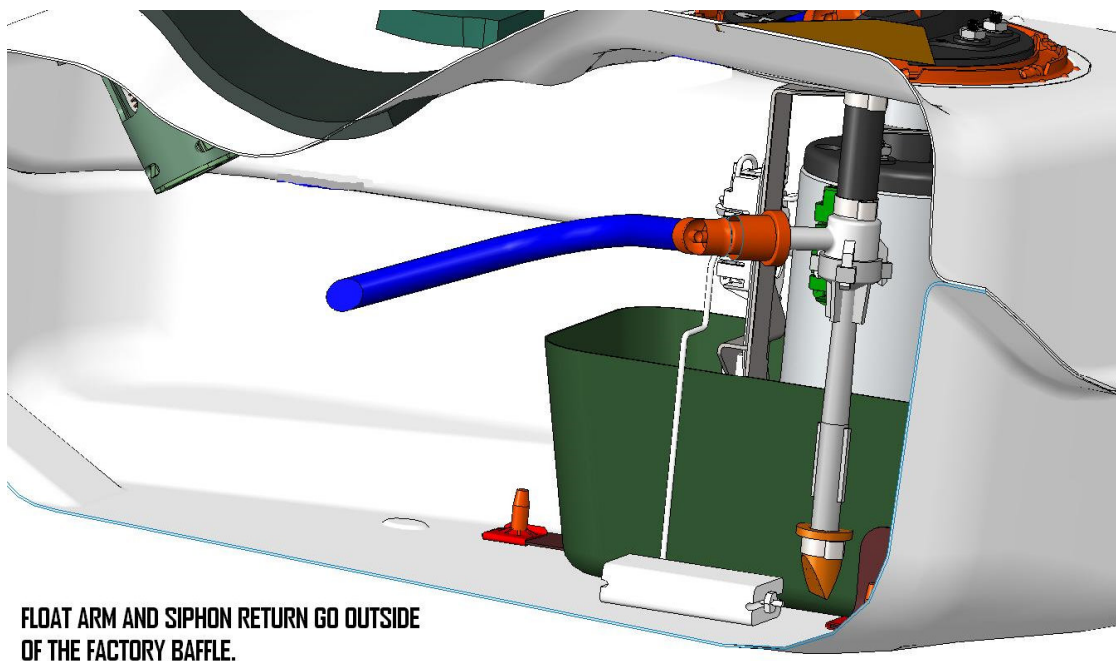
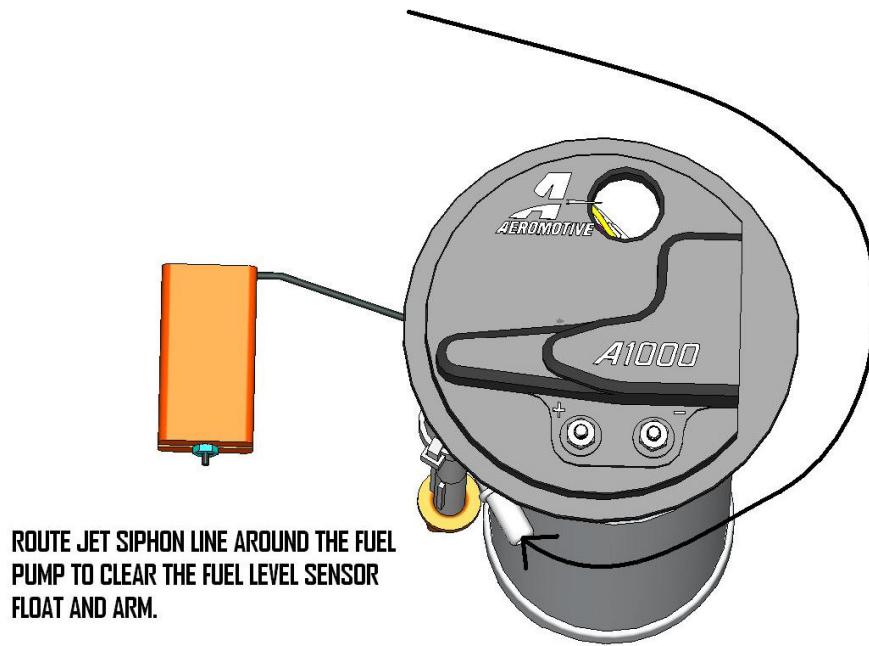

FIGURE 1-9
FIGURE 1-10
14. Pull the jet siphon tube up out of the tank and hold to one side as you lower the pump into the tank. It will be a tight fit, just take your time. You may have to rotate the quick disconnect on the siphon tube to get it to line up with the Aeromotive Stealth pump. **NOTE: Float arm and siphon return need to go on outside of the factory baffle.** **FIGURE 1-9** The outlet port will face the driver side when installed. Also note that the siphon tube needs to be routed around the pump as to not interfere with the float level sensor. **FIGURE 1-10**